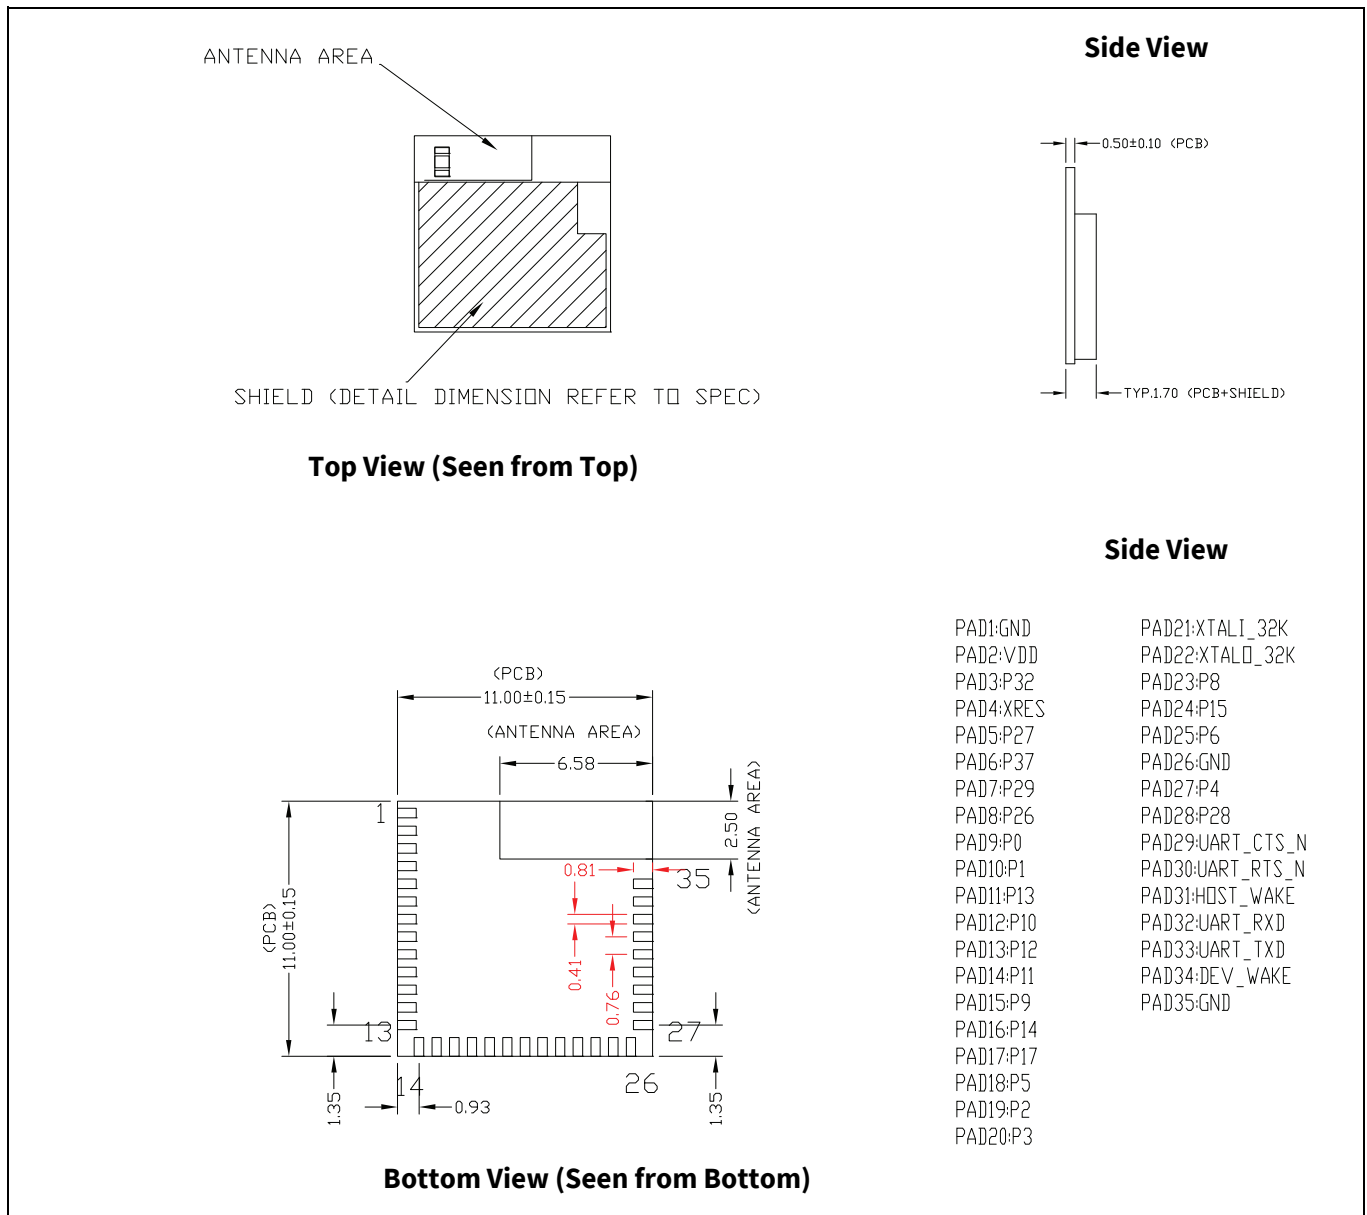
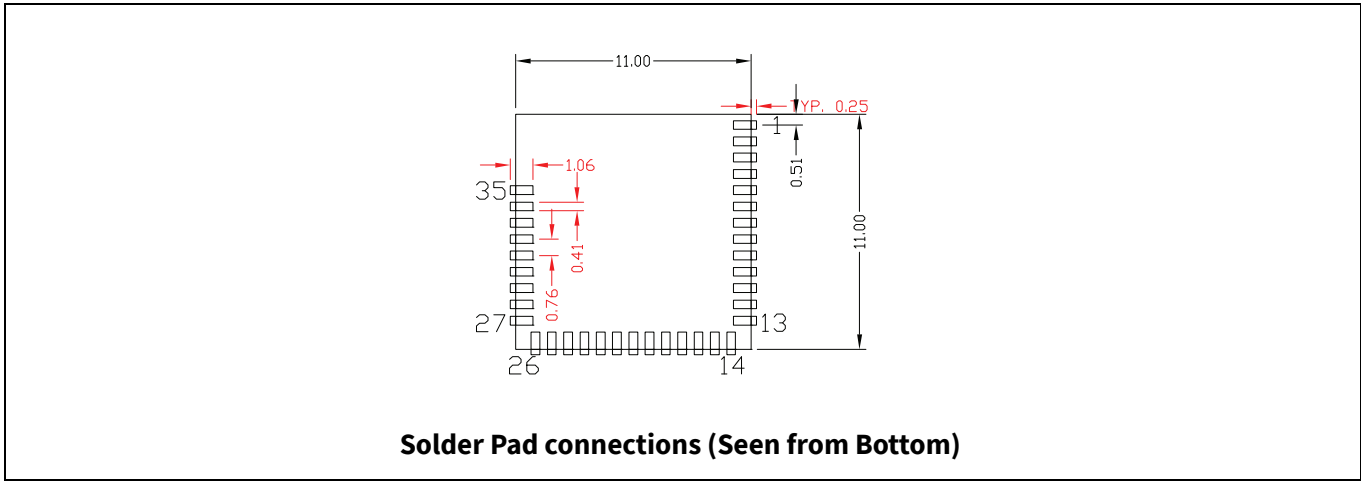
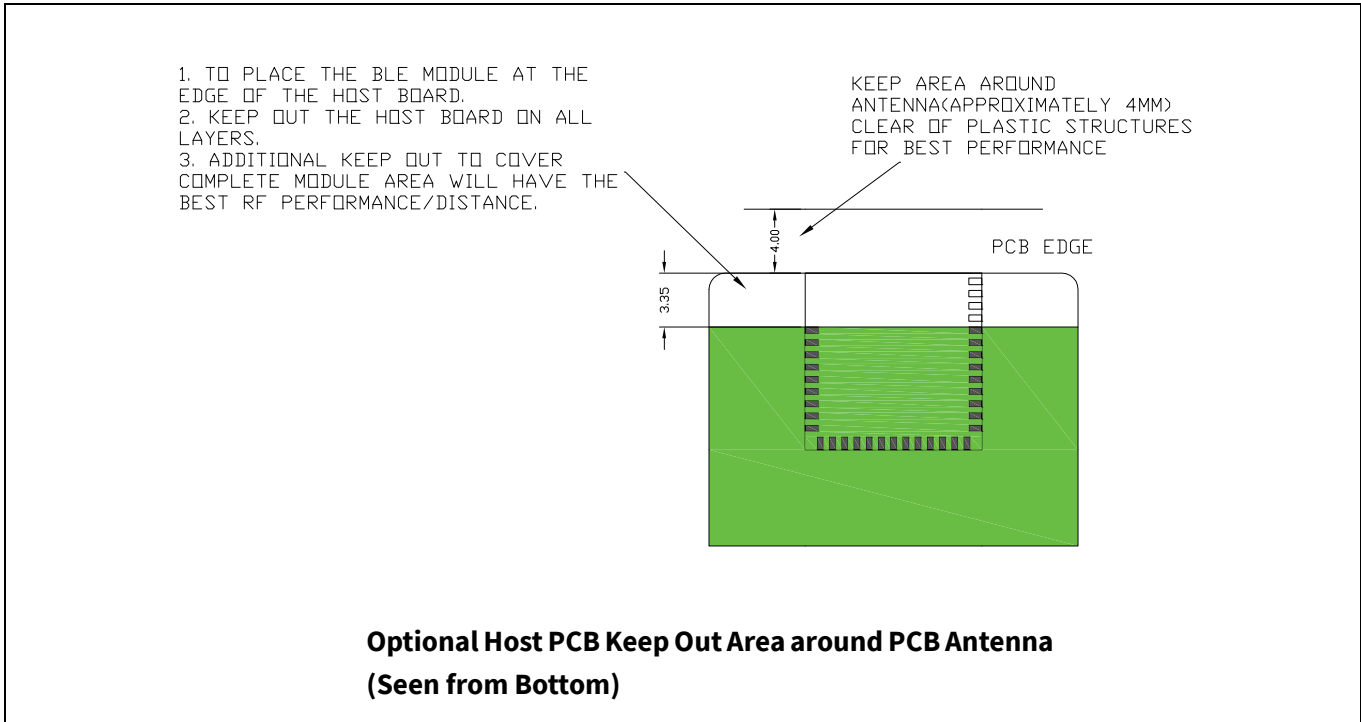

Figure 2 Module mechanical drawing
Figure 3 Solder Pad dimensions (Seen from Bottom)
Figure 4 Optional Additional Host PCB Keep Out Area around the CYBT-2x305x-02 PCB Antenna
Infineon reserves the right to select components from various vendors to achieve the Bluetooth® module functionality. Such selections will still guarantee that all mechanical specifications and module certifications are maintained. The CYBT-2x305x-02 will be held within the physical dimensions shown in the mechanical drawings in Figure 2. All dimensions are in millimeters (mm).
See Figure 2 for the mechanical reference drawing for CYBT-2x305x-02.
As shown in the bottom view of Figure 2, the CYBT-2x305x-02 has 35 connections to a host board via solder pads (SP). Table 2 and Figure 3 detail the solder pad length, width, and pitch dimensions of the CYBT-2x305x-02 module.
1. Antenna Area Keepout: The host board directly below the antenna area of the Infineon module (see Figure 2) must contain no ground or signal traces. This keep out area requirement applies to all layers of the host board.
2. Module Placement: The ideal placement of the Infineon Bluetooth® module is in a corner of the host board with the PCB antenna located at the far corner. This placement minimizes the additional recommended keep out area stated in item 3 below. Refer to AN96841 for module placement best practices.
3. Optional Keepout: To maximize RF performance, the area immediately around the Infineon Bluetooth® module PCB antenna may contain an additional keep out area, where there are no grounding or signal traces. The keep out area applies to all layers of the host board. The recommended dimensions of the host PCB keep out area are shown in Figure 4 (dimensions are in mm).